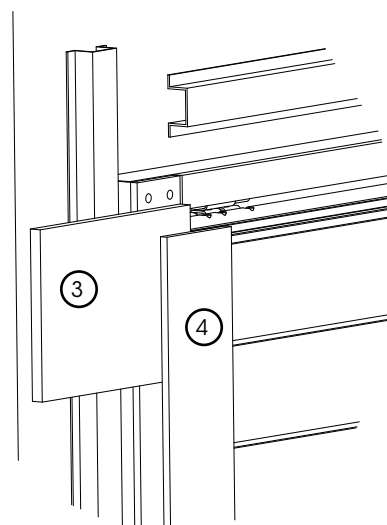

Fig: 3.2.1
- Take one of the boards from your required tool kit and secure both it (4) and the sample cladding (3) to the frame as in Fig 3.2.1.
! tip Ensure the face of both panels are flush with the temporary board (4) from fig 3.2.1 on the front of opening. To adjust, move the hinge plates on (Q) closer to OR away from the door as in Fig 3.3.2a & b.